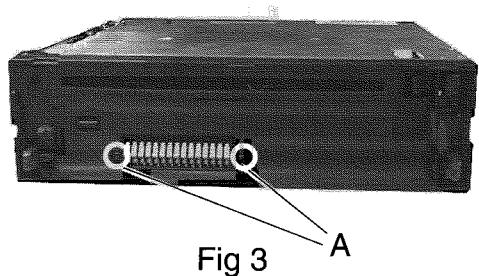

Fig. 3
■ Removing the front chassis assembly (See Fig. 3, 4)